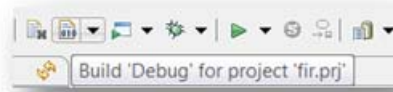

Figure 3-1: Build (Debug) Toolbar Button
Figure 3-1 shows the Build button on the toolbar and the tool pop-up shows the current default build type is for a debug configuration.
1. Compile the design by clicking the **Build** button (Figure 3-1).